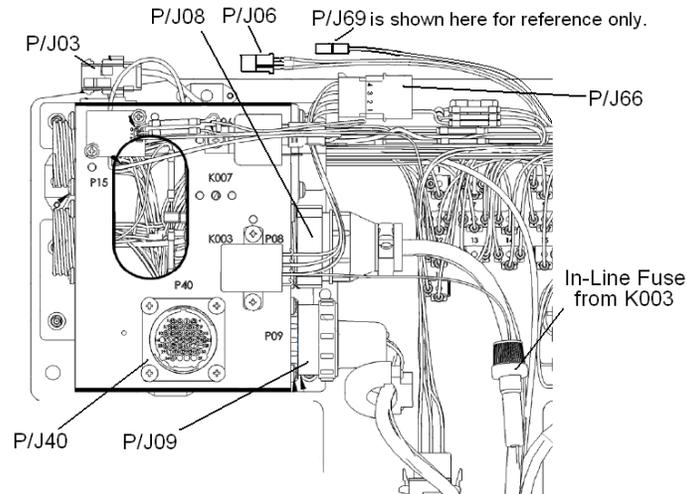

Figure 53-12 Port Side of the Power Distribution Harness
15. Move to the pilot's seat. Find the in-line fuse connected to relay K003. Disconnect the fuse from the wiring harness. You do not need to disconnect the connector P66. See Figure 53-12 for the location of the fuse associated with K003.
17. Disconnect P08, P09, and P40 from their connectors on the left hand bracket on the power distribution harness. See Figure 53-12 for the location of P/J08, P/J09, and P/J40.